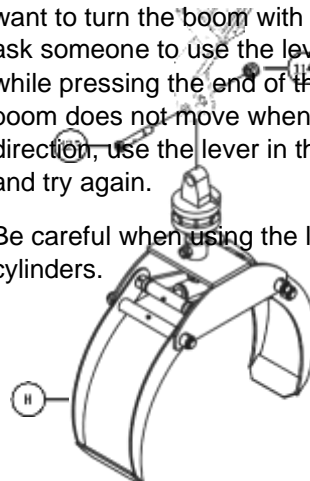

Fig. 14
(90) and tightening it by hand.
Step 17: Attach the grapple and its hoses. Attach the grapple (H, figure 14) by removing the pivot pin (123) from the end of the boom arm unit. Check that the gripper hose connectors are oriented so that the boom arm hoses can be connected, and then align the gripper connection and boom arm holes. Insert the pivot pin (123) and install the nut (114). Since the grapple connection requires free movement, the nut (114) only needs to be tightened enough to touch the bottom of the pivot pin (123). Each boom arm hose is marked with a sticker that corresponds to its connection point on the grapple (see the hydraulic diagram if necessary). Match the sticker on each hose to its connection point and attach the hose. While